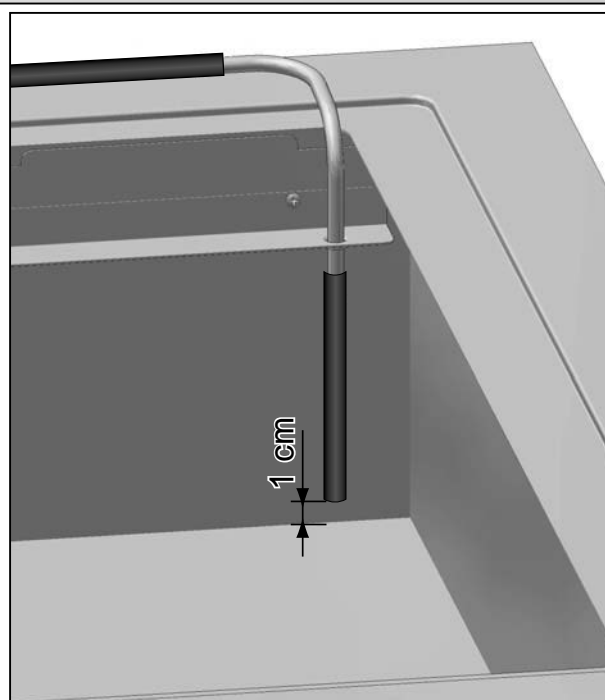

Fig. 19 Place a piece of the cut off tube material onto the suction tube and cut to size
3. Push a sufficiently long piece of the cut off tube material onto the suction tube in the waterbath basin and cut it to size, so that it sticks out about 1 cm beyond the edge of the basin (Fig. 19).
5. Push a sufficiently long piece of the cut off tube material onto the suction tube in the waterbath basin and cut it to size, so that it sticks out about 1 cm beyond the edge of the basin (Fig. 19).